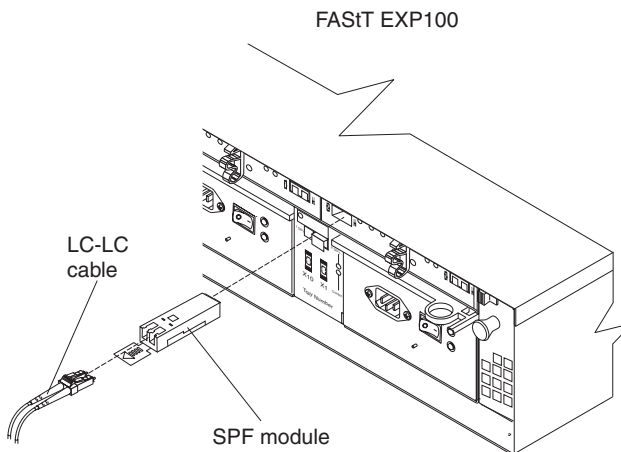

Figure 35. Installing an SFP module and connecting an LC-LC cable to the FASTt EXP100
3. Install an SFP module in the SFP port on the back of the FASTt EXP100; then, connect the other end of the LC-LC cable into the SFP module, as shown in Figure 35.